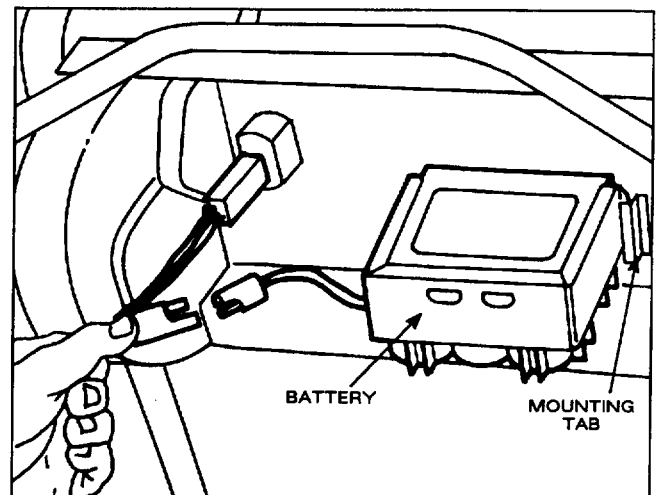

Figure 4
1. **Charge Battery**—Refer to Charging Battery, page 10. Slide battery, decal side up, between mounting tabs on back of control panel and connect wires (Fig. 4). Insert key into switch when ready to start engine.